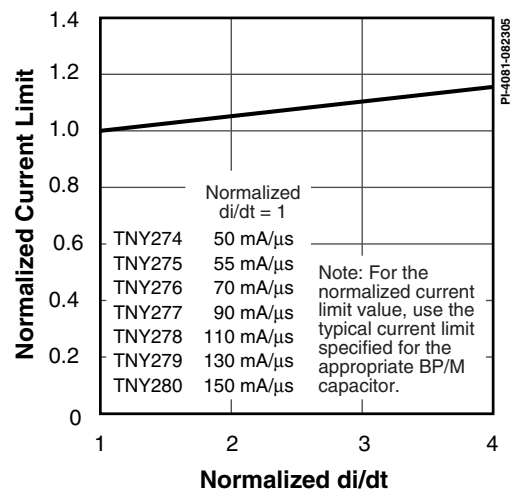

Figure 23. Current Limit vs. di/dt .
- E. For current limit at other di/dt values, refer to Figure 23.